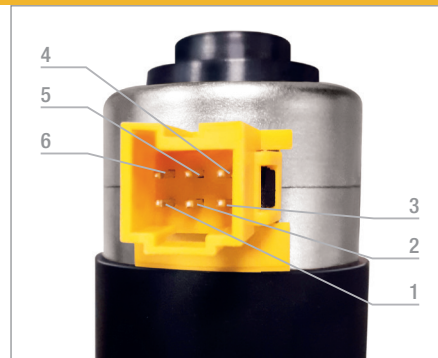

Figure 2 - Motor electrical connection
- Stepper motor \_\_\_\_\_ Male connector compatible to cable connector Stocko STO-GRID. MH 790-06-001-118, see Figure 2